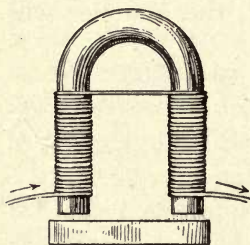

FIG. 179. — An Electromagnet of the Horseshoe Form.
**Experiment 57.** — Make an electromagnet by winding a bar of soft iron in the shape of a horseshoe with insulated wire (Figure 179) and test its lifting power.